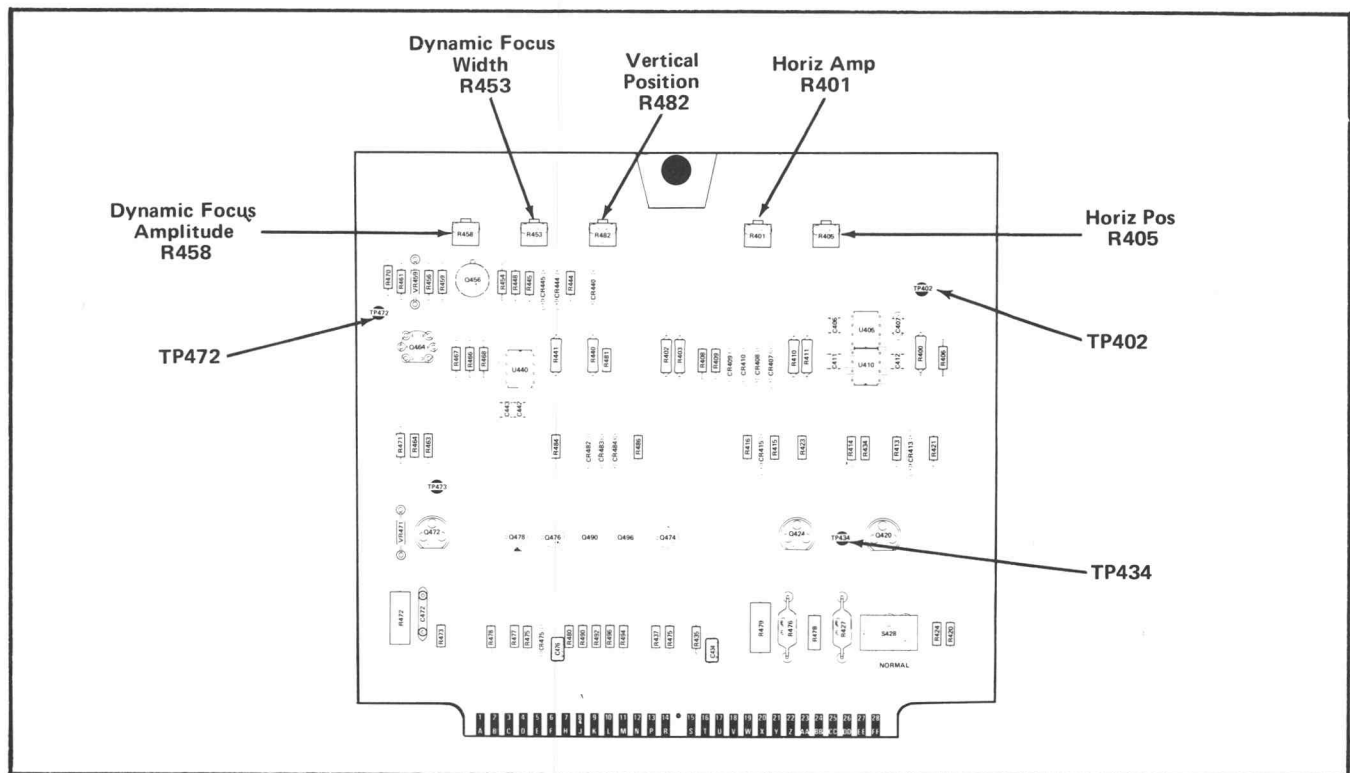

Fig. 5-6. Location of Deflection Amplifier and Dynamic Focus circuit card adjustments and testpoints.
b. Connect a 10X probe from a test oscilloscope Channel 1 connector to TP434 on the vertical amp and dynamic focus circuit card. See Fig. 5-6.
e. ADJUST—R401 Horiz Amp (Fig. 5-6) for a test oscilloscope waveform amplitude of approximately 1.2 volts. Adjust R405 Horiz Pos (Fig. 5-6) so that the test oscilloscope waveform is centered about the test oscilloscope zero volt DC reference point.
b. Connect a 10X probe from a test oscilloscope, channel 1 connector to TP472 on the deflection amp and dynamic focus circuit card. See Fig. 5-6.
d. ADJUST—R453 dynamic focus width and R458 dynamic focus amplitude (see Fig. 5-6) for waveform amplitude of approximately 215 volts with a width at the waveform 50% points of 2.66 milliseconds.
f. Connect a 10X probe from the test oscilloscope channel 1 input connector to TP434 (Fig. 5-6).
h. Connect a shorting strap between TP402 (Fig. 5-6) and ground.
- c. Rotate R405 horizontal position (Fig. 5-6) through-out its range.
d. Rotate R482 Vertical Position (Fig. 5-6) throughout its range.